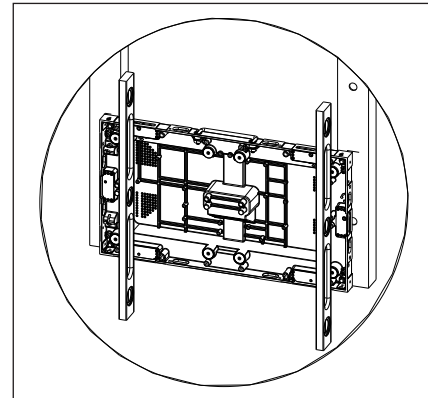
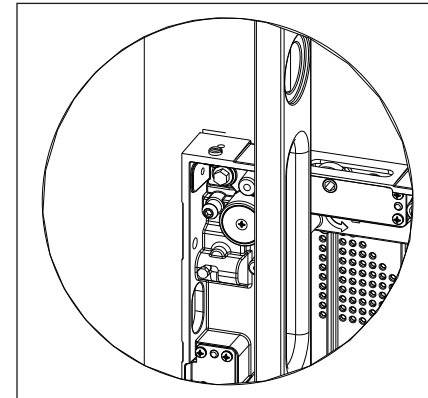

Figure 5: Ensure Panel Is Level & Vertically Plumb
Figure 6: Adjust Jacking Hardware
6. Ensure the panel is level and vertically plumb. Refer to **Figure 5**. Adjust the jacking hardware to correct any plumbness issues. Refer to **Figure 6**.